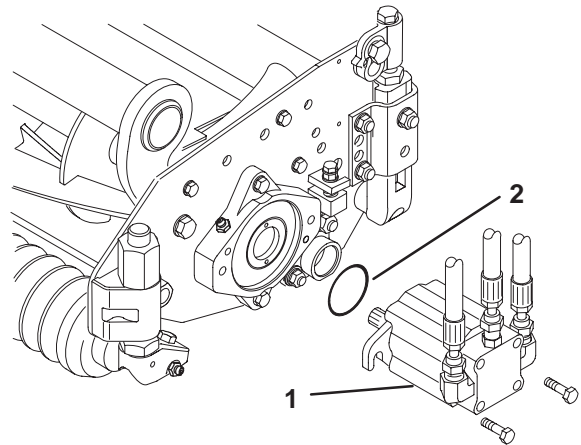

Figure 6
13. Mount the motor to the drive end of the cutting unit and secure with two capscrews provided (Fig. 6).